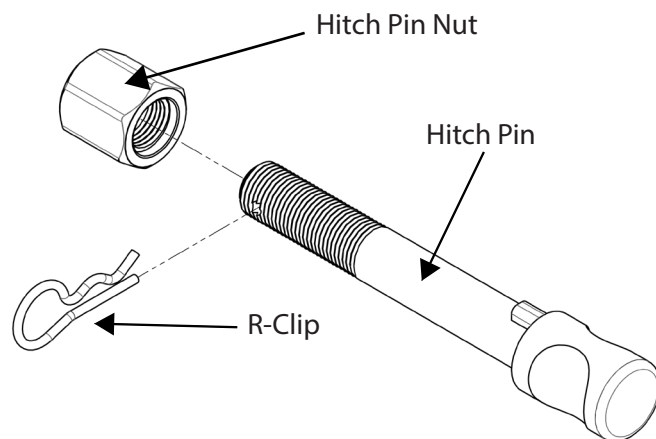

Fig 1. Silent Anti-Rattle Hitch Pin assembly
- b. Remove exhaust bracket bolts, lower exhaust (LH & RH sides of vehicle) see fig 1
- h. Raise exhaust, refit exhaust bracket bolts. (LH & RH sides of vehicle) see fig 1
Install HITCH PIN R CLIP through the hole on the HITCH PIN (Fig. 1).